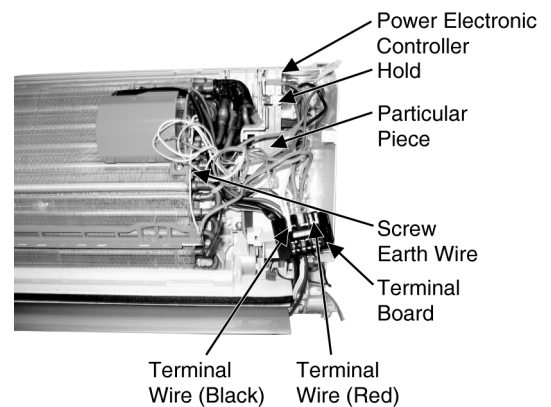

Fig. 6
- Release the screw for the Earth wire. (Fig. 6)
- Pull out 2 terminal wires (Black and Red) from the Terminal Board. (Fig. 6)
- Detach the Terminal Board from the Control Board. (Fig. 6)
- Press the Hold to the left side, remove the Particular Piece and slide out the Power Electronic Controller. (Fig. 6)